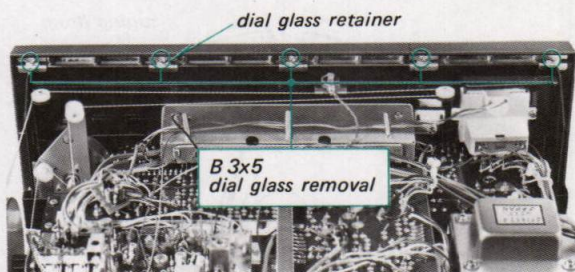

Fig. 2-3. Dial glass removal
2. Remove the five screws securing the dial glass retainers as shown in Fig. 2-3. This frees the dial glass.